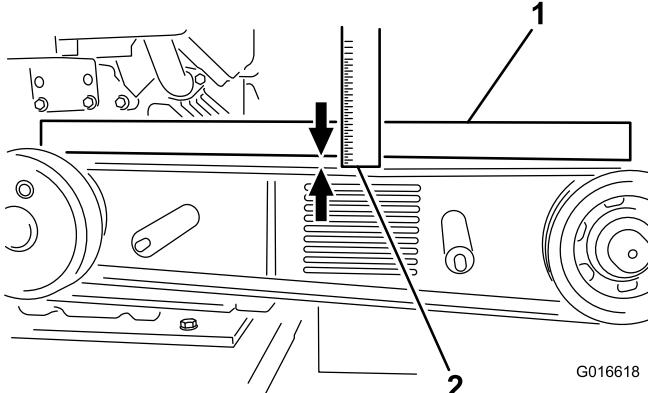

Figure 27
6. Lay a straightedge across clutch and flywheel pulleys, tighten belt tension bolt so there is 0.40 inch (1 cm) of flex in the belt when pushing down with 15 lbs (6.8 kg) force, at mid-span (when re-tensioning a belt in use) or with 18 lbs (8 kg) force when installing a new belt (Figure 27).